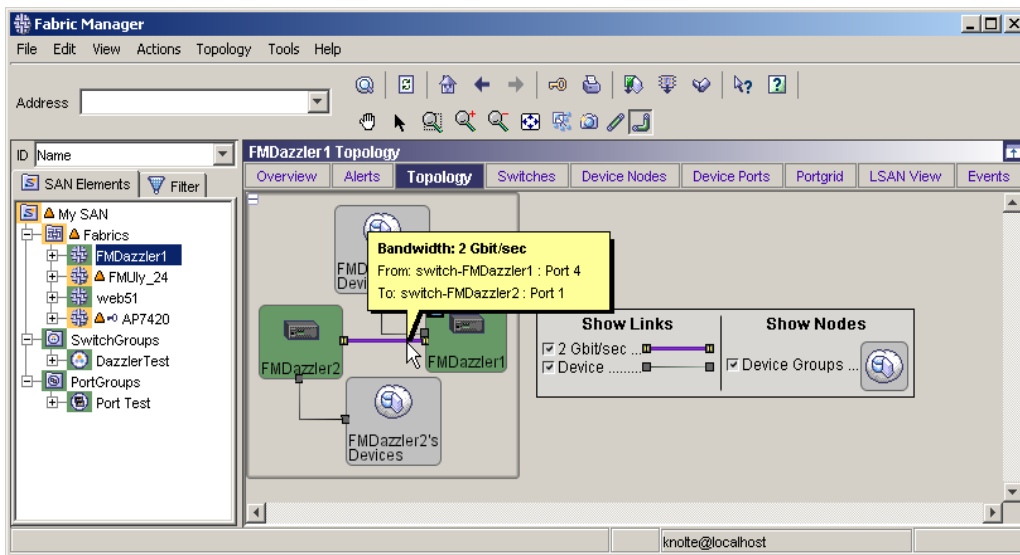

Figure 113 Tooltip for link
The chapter provides information about the Topology view within Fabric Manager. The Topology view (see Figure 70 on page 91) provides a graphical representation of the elements that Fabric Manager monitors and all of their connections (see Figure 113). This includes logical SANs (LSANs) and any virtual switches and links associated with them.
- Click and hold on any element in the view to display a Tooltip. Tooltips provide basic information about the element that you clicked. Figure 113 displays the speed of a link between two switches (and identifies the port number of each connection). Tooltips disappear when you release the mouse button. Tooltips are disabled while you use the Select, Pan, or interactive zoom features (Zoom in rectangle, Zoom in, Zoom out, Fit to view, and Overview) as described in Table 21 on page 91.